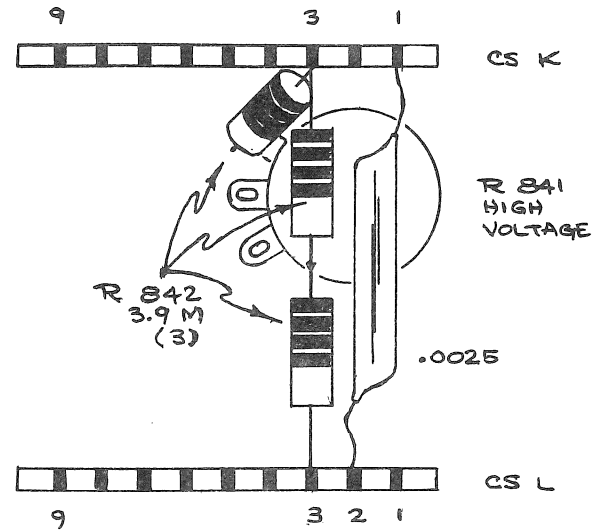

Fig. 1
A. RM561 ONLY: REFER TO FIG 1 FOR STEPS A-1 THROUGH A-3.